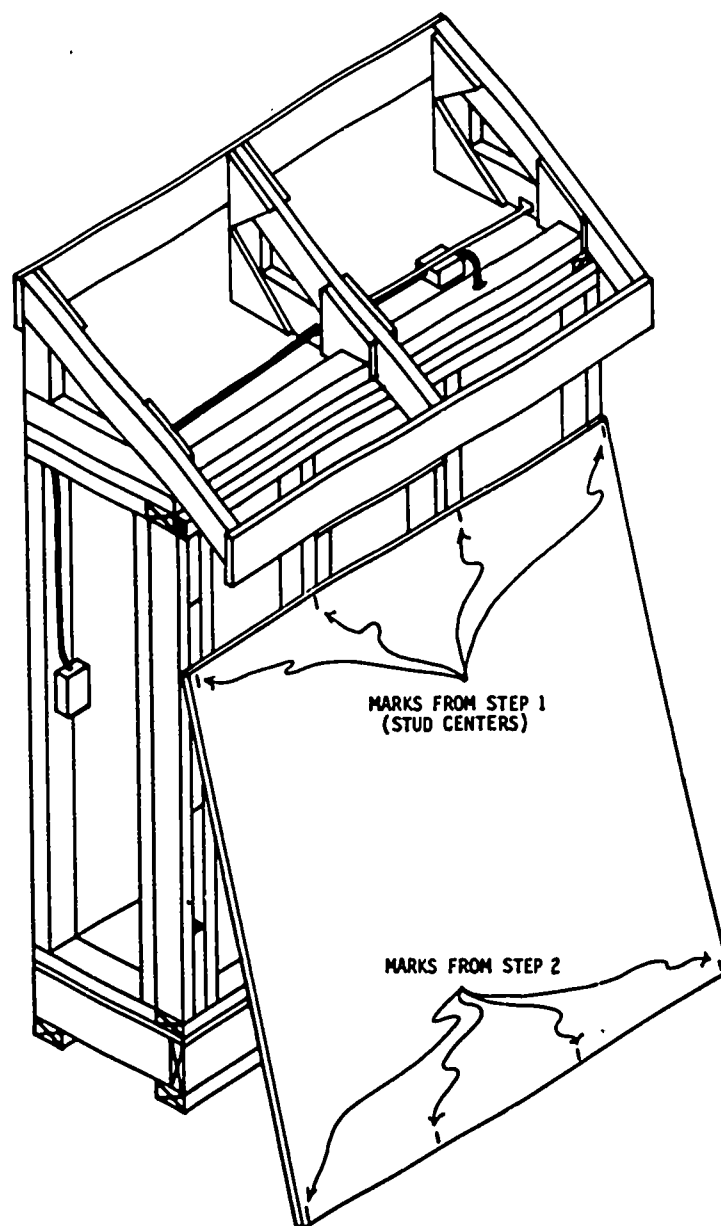

Fig. 56-1. Marking Sheathing
2. Turn the sheet of sheathing so that the 56" dimension runs up and down (vertically). Lean it against the front of the wall section where it is to be applied. See Fig. 56-1.
3. On the top edge of the sheathing mark the locations of stud centers as in Fig. 56-1.
4. Measure and mark the stud centers on the bottom edge of the sheathing as in Fig. 56-1.